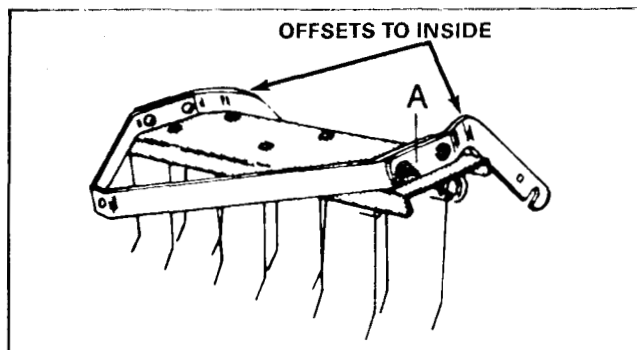

Figure 136
it toward the center of the tray. See Figures 136 and 137.
15. Repeat this procedure on the right side. Next, determine which type front pivot arms (for wheels) your mower is equipped with and proceed as follows. (Refer to Figure 136.)